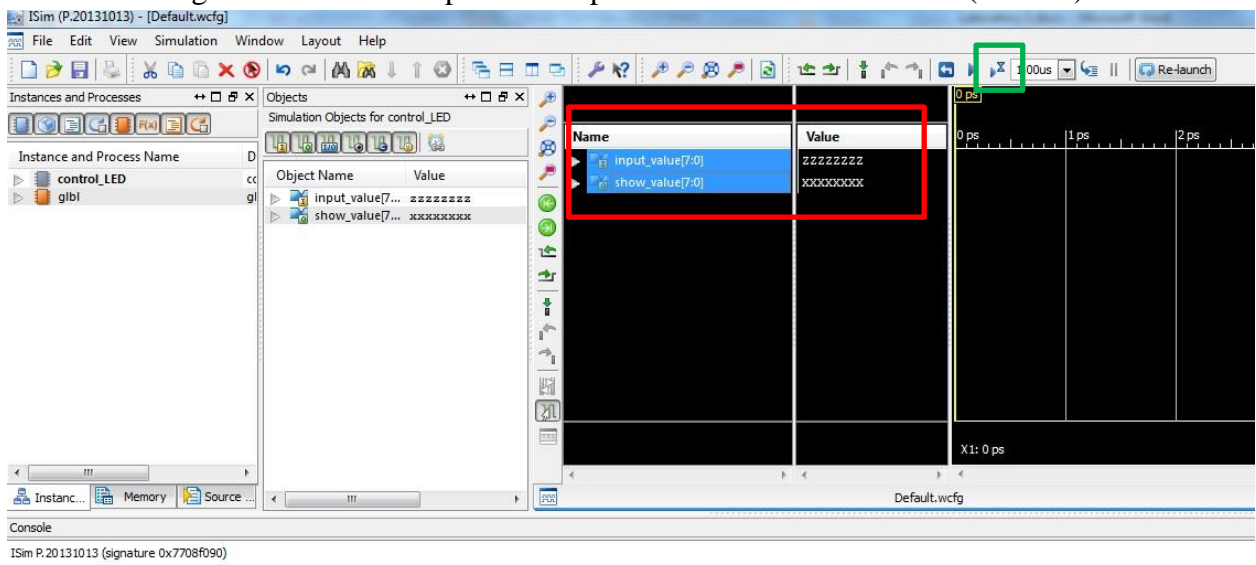

Fig.5: Simulation Window
24. Double click on **Simulate Behavioral Model**; a separate simulation window will pop up as shown in Fig. 5. You can see input and output in the waveform window (red box)